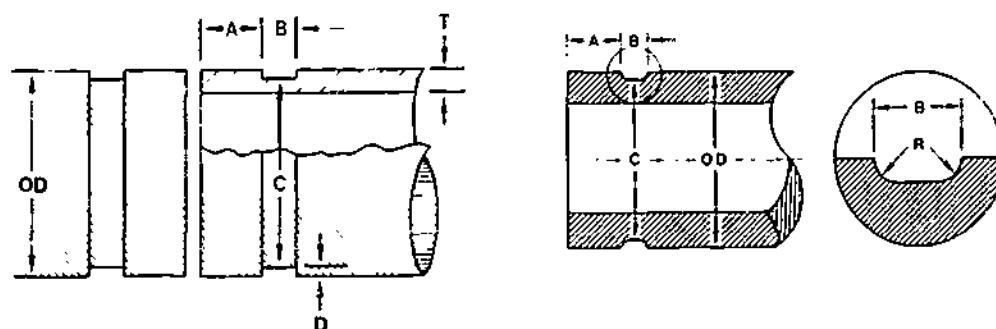

Figure 13-2. Dimension Standards
- c) Grooving dimensions are very important. The groove provides for coupling engagement to lock the joint, yet there also must be enough wall thickness under the groove for pressure service. This is easily done by ensuring that all grooves are in accordance with dimension standards published in Victaulic catalogues and grooving-tool instruction brochures (see Figure 13-2).